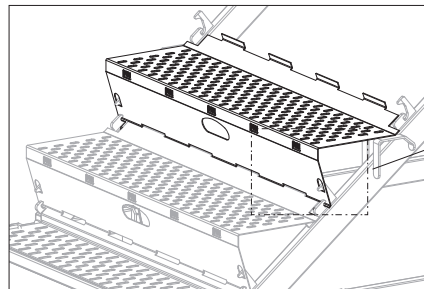
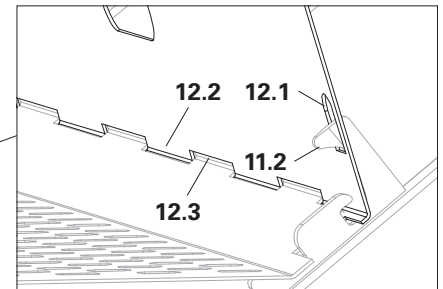
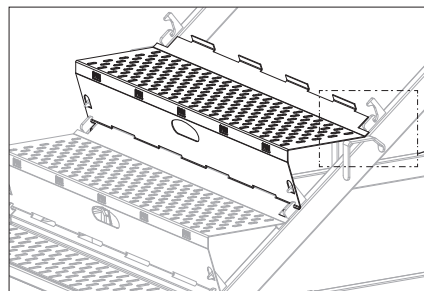
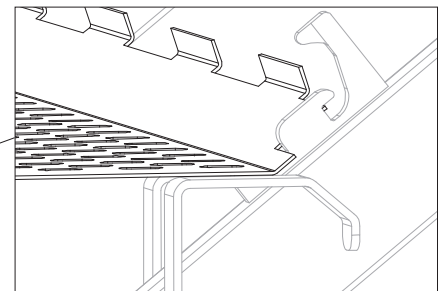

Fig. A2.09c
Fig. A2.09d
Fig. A2.09e
Fig. A2.09f
2. Tilt the step upwards. → The hook (11.2) engages in the slots (12.1). (Fig. A2.09c + Fig. A2.09d) → The teeth (12.3) of the preceding step slip through the slots (12.2) of the riser and connect both steps. (Fig. A2.09ed + Fig. A2.09fe) → The top of the step rests against the Stair Stringers UA. (Fig. A2.09f)